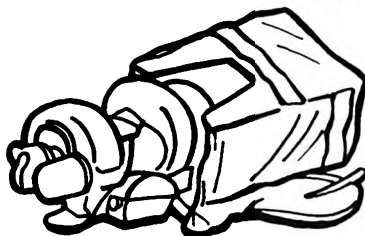

Figure 6.
6. Remove the tracker from the carrying bag and remove the protective cover from the tracker electrical receptacle (figure 6).